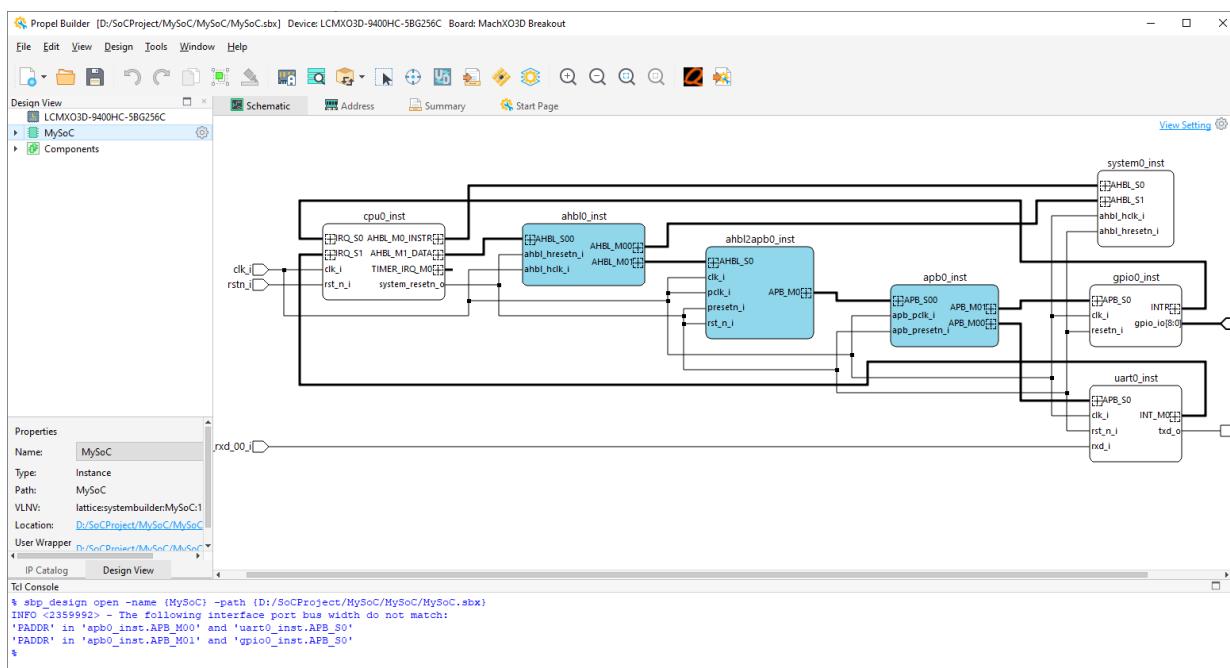
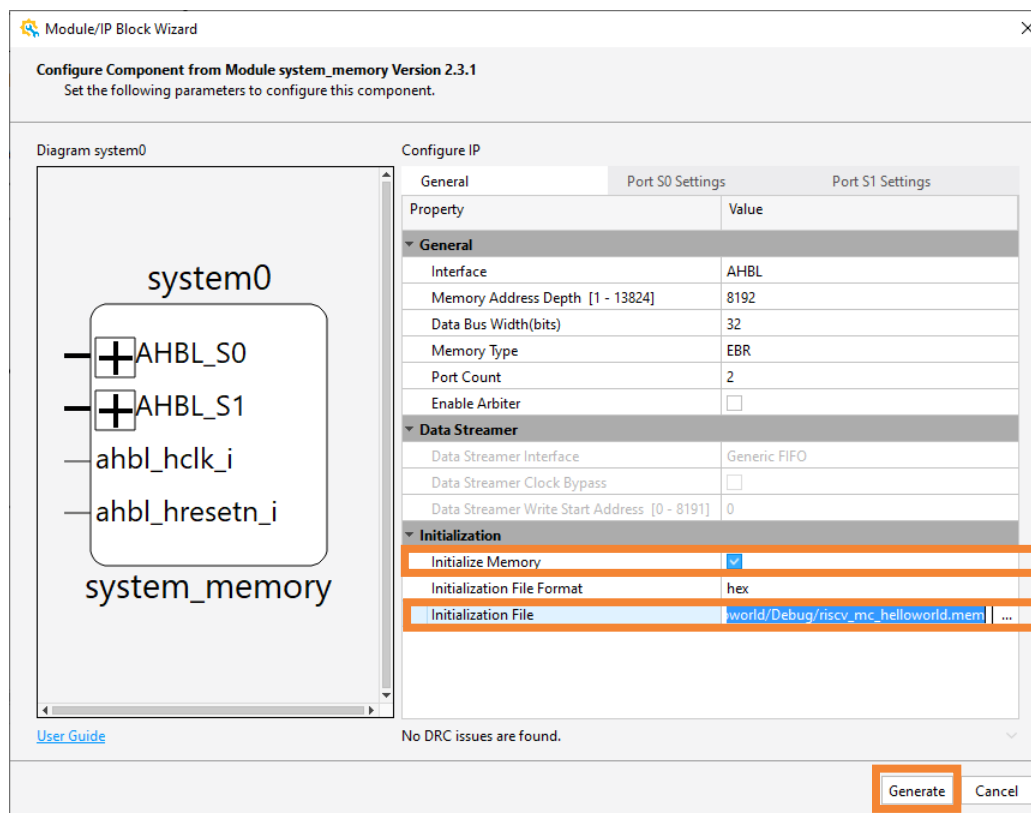

Figure 6.10. Project Workbench
Figure 6.13. Configuring System Memory Module 2
- Click **Finish**. An SoC project is created, as shown in Figure 6.10.
- In SoC project workbench (Figure 6.10), Choose **Design > Generate > Generate** to create C project requirement files. Choose **Design > Run Propel** to switch to Lattice Propel SDK.
In the SoC project workbench (Figure 6.10), update the SoC design to set the preloaded software. Enable the **Initialize Memory** checkbox for the System Memory IP instance from the **Initialization** area of the **General** tab. Set **Initialization File** (Figure 6.13) generated from the corresponding Hello World C project in the Creating a Hello World C Project section. Click **Generate** (Figure 6.13).
In the SoC project workbench (Figure 6.10), choose **Design > Generate > Generate**.
1. In the SoC project workbench (Figure 6.10), choose **Design > Run Diamond**. A Lattice Diamond project is created and opened automatically in the Lattice Diamond software.